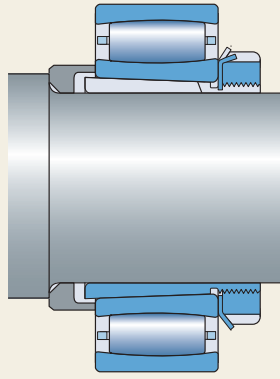

Fig. 15
- an adapter sleeve on plain or stepped shafts (fig. 15):